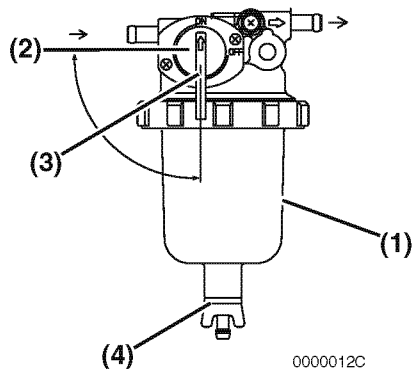

Figure 5-7
1. Position an approved container under the fuel filter / water separator (**Figure 5-7, (1)**) to collect the contaminants.
2. Close (**Figure 5-7, (2)**) the fuel cock (**Figure 5-7, (3)**).
3. Loosen the drain cock (**Figure 5-7, (4)**) at the bottom of the fuel filter / water separator. Drain any water collected inside.
5. Open the fuel cock (**Figure 5-7, (3)**).